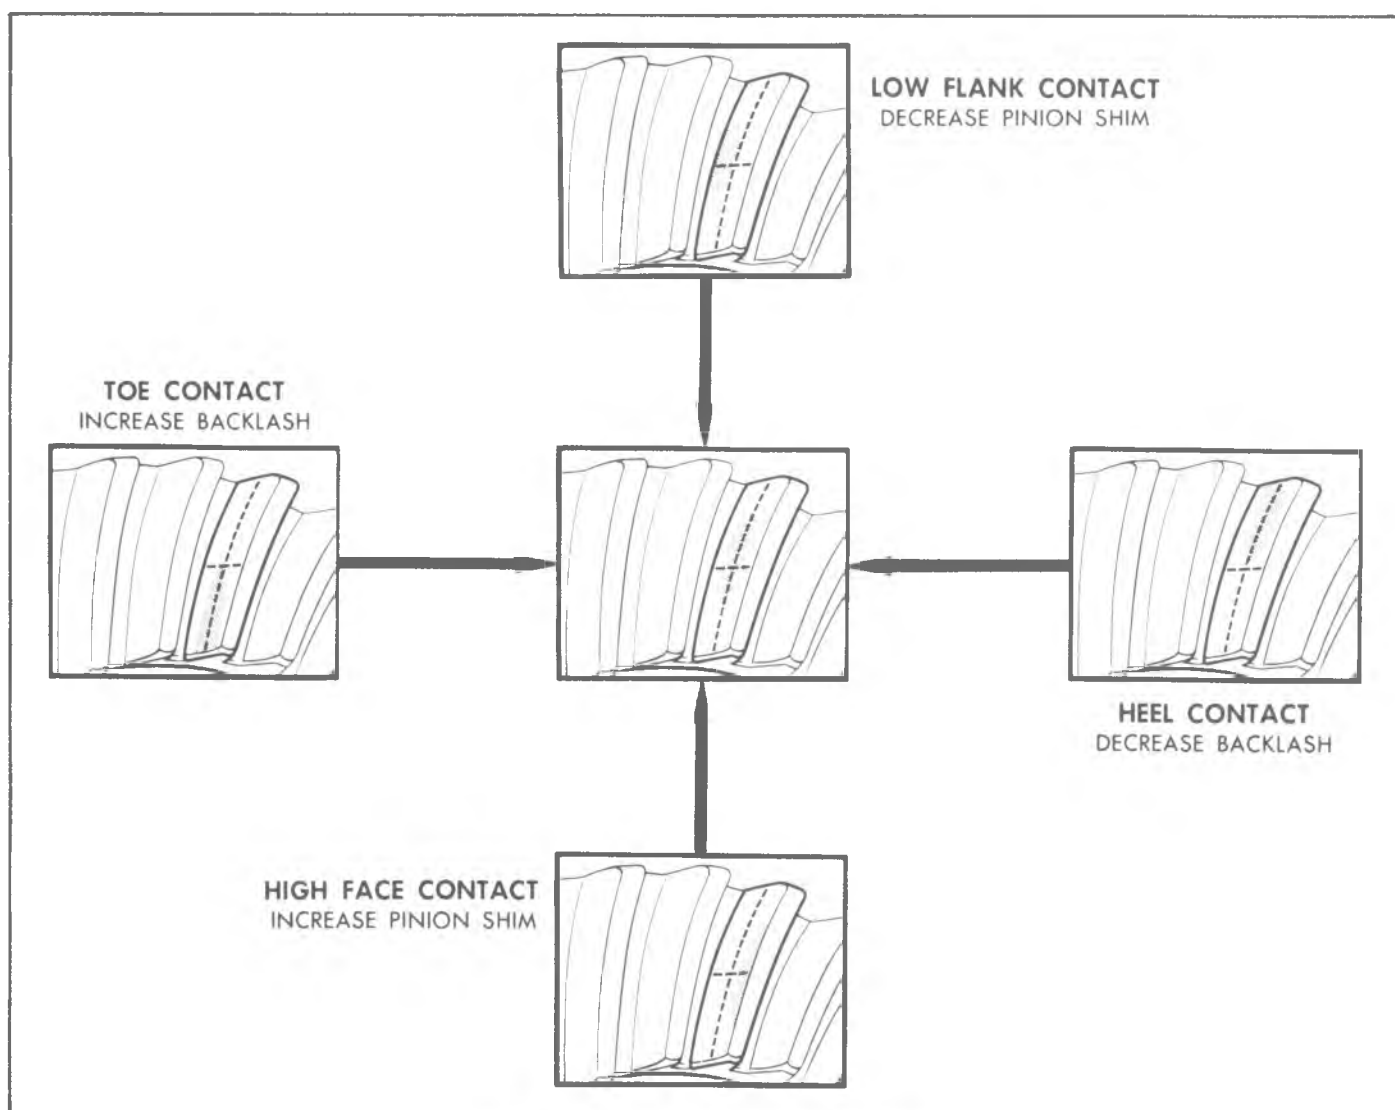

Fig. 30B—Gear Tooth Contact Pattern Check
5. Observe pattern on ring gear teeth and compare with Figure 30B.